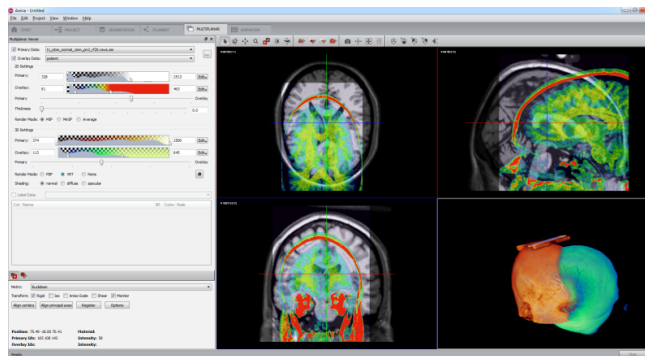

Figure 17.2: Screen shot of the Multiplanar Viewer showing reference and patient data in image fusion.
- Set up the reference image as *Primary Data* and the patient image as *Overlay Data*. In the *2D Settings* panel use the *grayScale* colormap for the primary and *physics.icol* for the secondary data, in the *3D Settings* panel use the *Glow.am* and *volrenGreen.col* colormaps, respectively. For min/max settings and rendering types refer to Fig. 17.2.